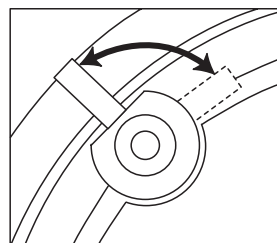

Figure 17. Tightening the clamps or mounting dogs.
3. Locate the four clamps or mounting dogs which will hold each speaker in place, along with their front-baffle tightening screws. Rotate the dogs inward, insert each speaker into its cutout, and tighten the dogs by turning the screws clockwise, as shown in **Figure 17**.